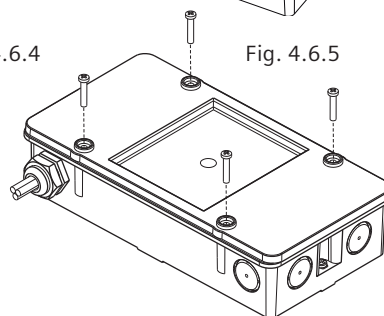

Fig. 4.6.5
1. Open the housing (Fig. 4.6.5).
5. Insert the seal and fix the lid additionally with four screws (Fig. 4.6.5). (only this way is IP65 protection guaranteed)